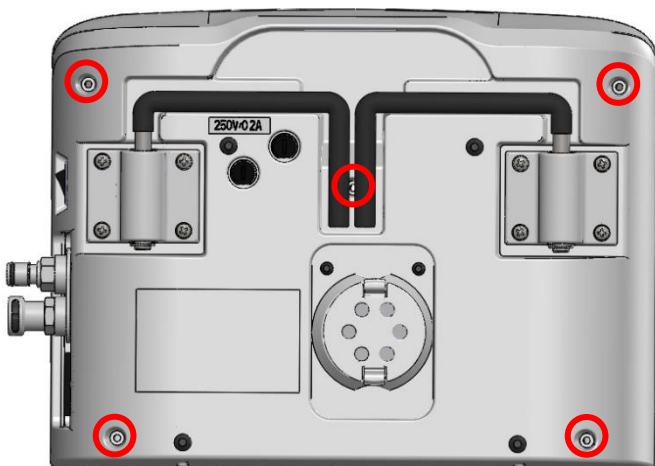

Fig: 7
2. Remove the five screws from the rear of the power unit. (Fig: 7)